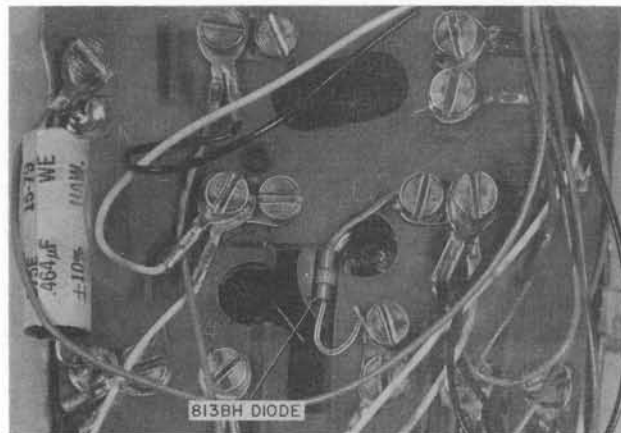

Fig. 19—Typical Installation of 813BH Diode in AC- or AD-Type Telephone Base
3.27 The 426N (MD) or 813BH diode (Fig. 19), furnished in this kit of parts is intended for use with AC- or AD-type (except AC2PH and AD3H) when connecting for 4-party full selective or 8-party semiselective ringing. Place the diode in the opening provided in the terminal board. Dress the leads to the appropriate terminal board terminals and replace the existing screw terminals with the two screws from the kit of parts. Refer to Table E for orientation of diode and terminal connections. Refer to Section 501-320-100 for additional information on kit of parts.